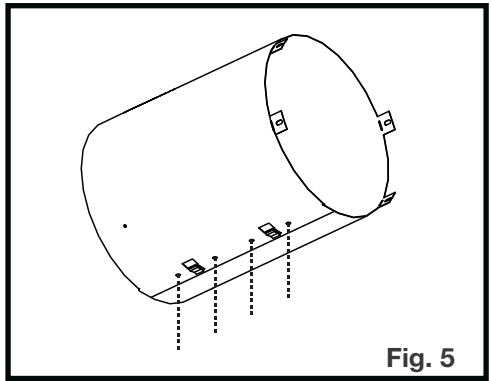

Fig. 5
- 5. Ensure both ends line up and secure ends with clip and fasteners (Figure 5).